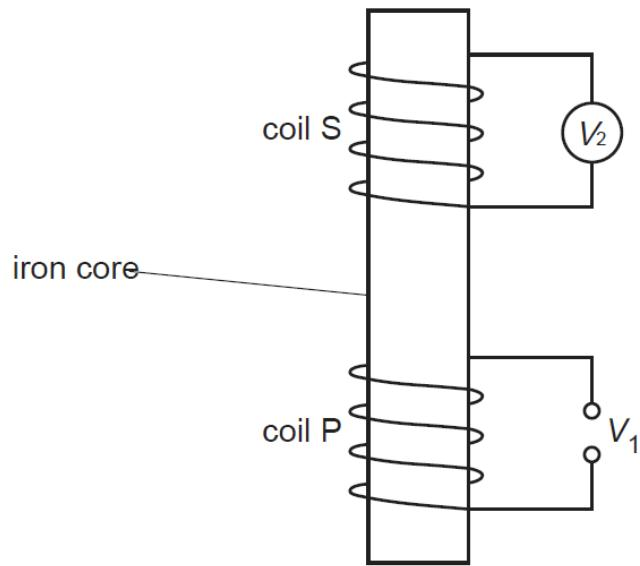

Fig. 5.1
- (b) Two coils, P and S, are wound on an iron core, as shown in Fig. 5.1.